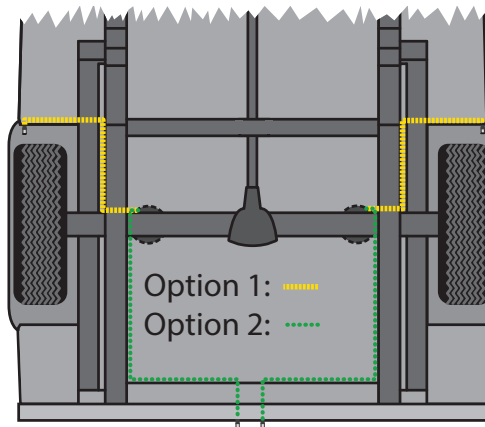

fig. E.2
5. Place a 5/16" nut and star washer on the air valve. Leave enough of the inflation valve in front of the nut to extend through the hole and have room for the rubber washer, flat washer, and 5/16" nut and cap. There should be enough valve exposed after installation – approximately 1/2" – to easily apply a pressure gauge or an air chuck (Fig. E.2).